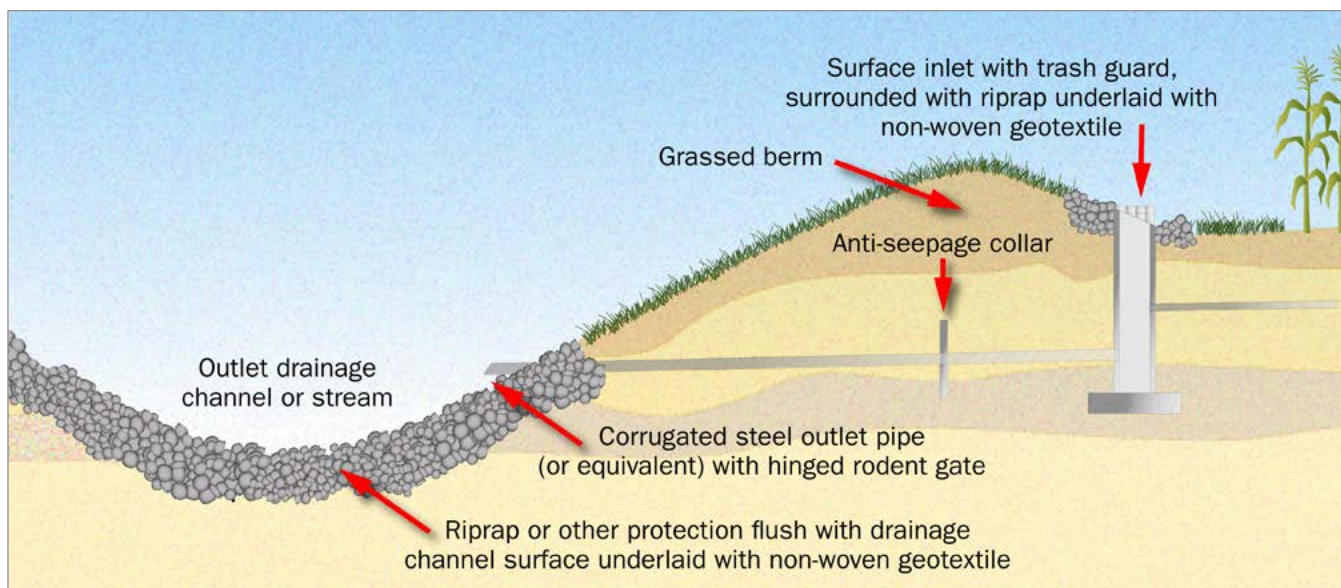
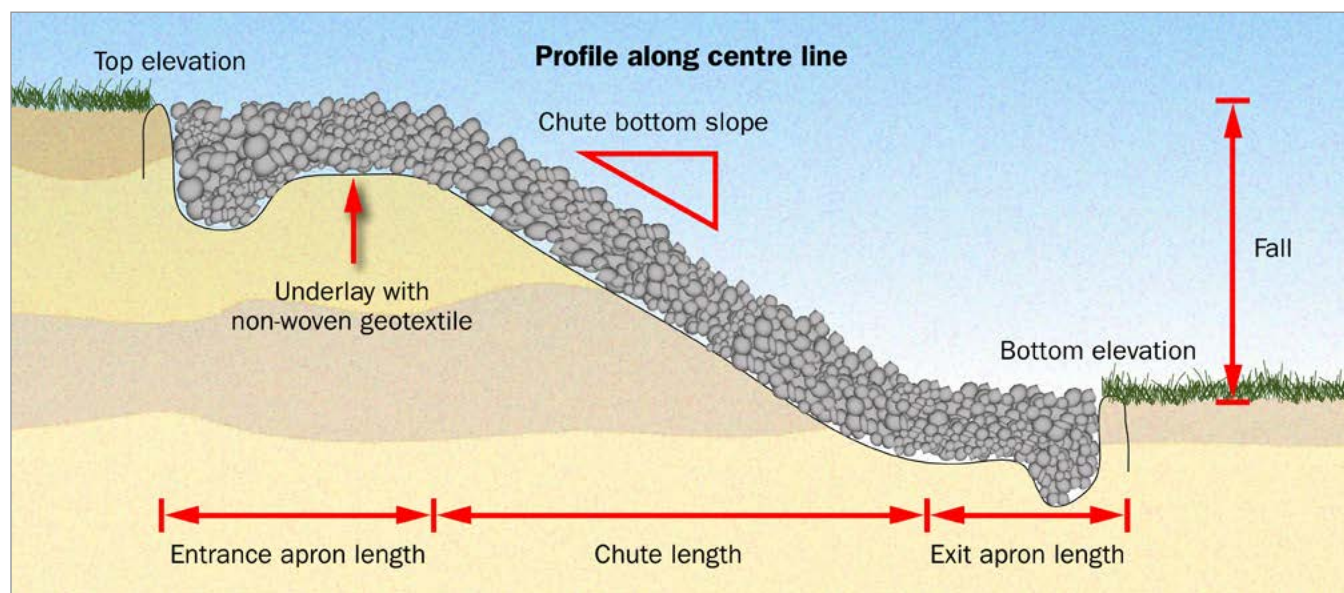

Figure 4. Drop pipe outlet structure for subsurface drainage system with optional surface inlet.
Figure 5. Rock chute spillway (profile).
- Install a properly designed drop pipe structure to move the water down to the lower elevation. These structures are sized large enough to serve as a junction box for several main lines. The drop pipe structure, with an optional surface water inlet, is shown in Figure 4. Avoid using a surface water inlet if the tile drain has winter flow (e.g., springs), since this can cause blockage through ice build-up. Secure a trash guard or inlet grate on the surface inlet.
There should be no surface flow over the ditch bank at the drain system outfall location. Where it is necessary to allow surface water to enter a ditch, construct a properly designed drop structure as shown in Figure 4, or a rock chute spillway as shown in Figures 5 and 6.